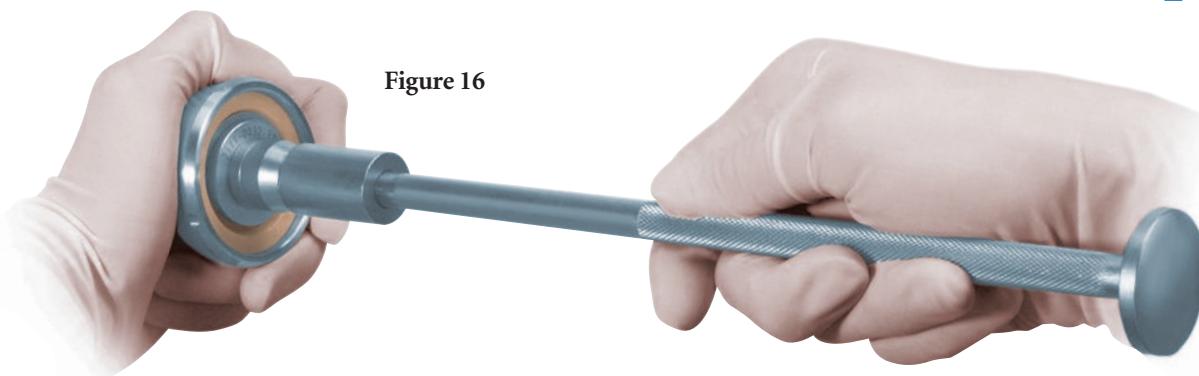

Figure 16
3. Load either the polyethylene or ceramic insert into Insert Positioner Tip. Press firmly to ensure insert is being securely held (Figure 16).